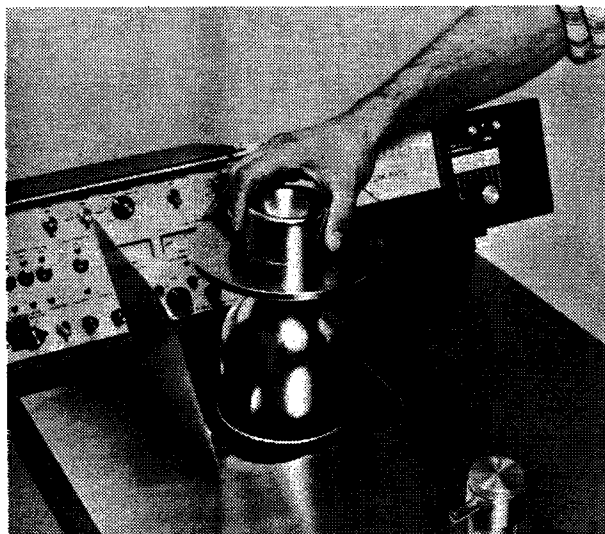

Figure 6-4.
5. Open the cold trap door; remove and empty the cold trap (Figure 6-4).